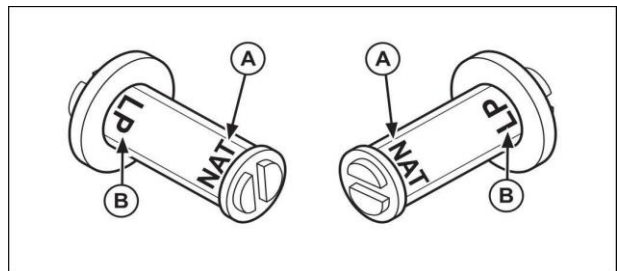

Figure 2. "NAT" and "LP" letters on the needle.
Read the letters on flat of the needle that is seated in a small hole on the large nut. You will see "NAT" (A) or "LP" (B). (Figure 2).